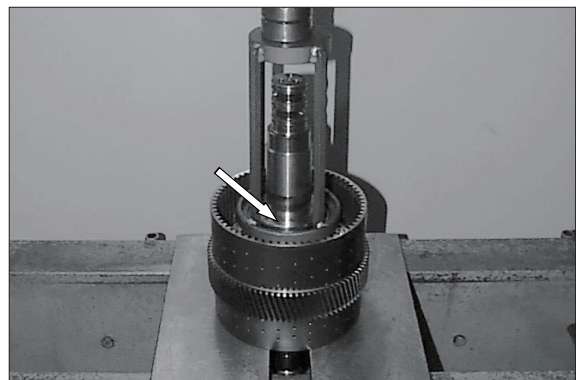

Figure 135
- (7) Lift the disc carrier out of the clamping ring. Preload the compression spring by means of fixture and engage the snap ring into the annular groove of the disc carrier (arrow), see figure 135.